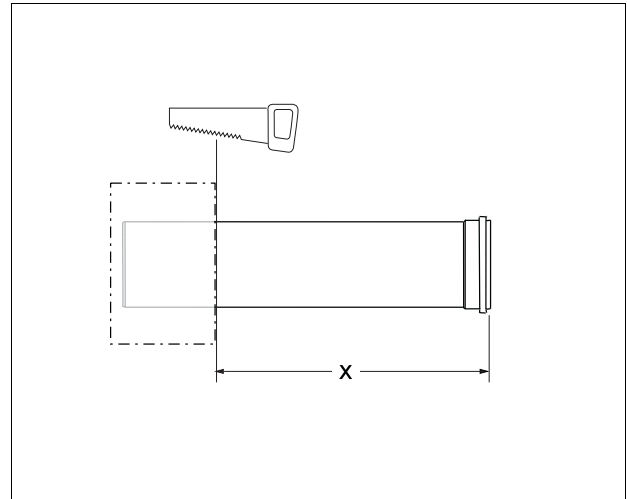

Fig. 4 Trimming pipes
- Trim pipes at a right angle to the required length x (Fig. 4).